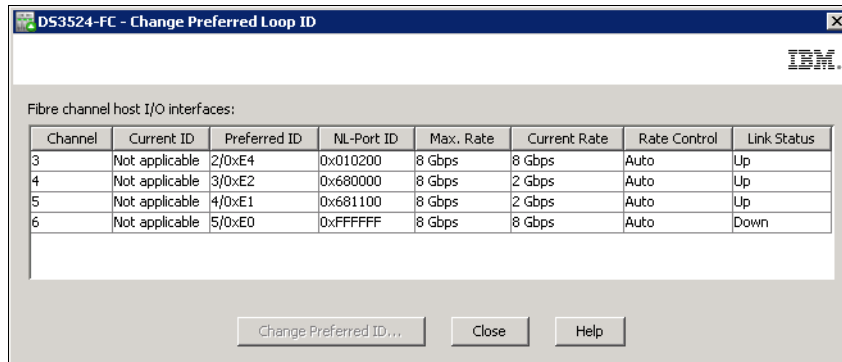

Figure 10-14 FC ports - Loop ID
1. Select the controller in the Physical pane, right-click it, and select **Preferred Loop ID** in the menu. A list of FC ports displays in a new window (Figure 10-14).